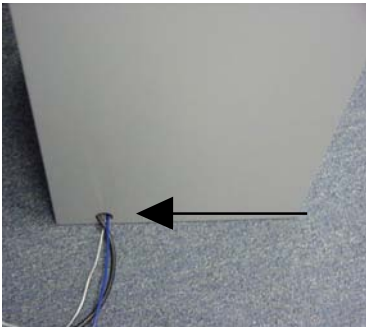

Figure 2-9
3. Feed the 10Base-T cable from your LAN network connection through the cabinet base cable entry located lower left, back of cabinet (Figure 2-9).